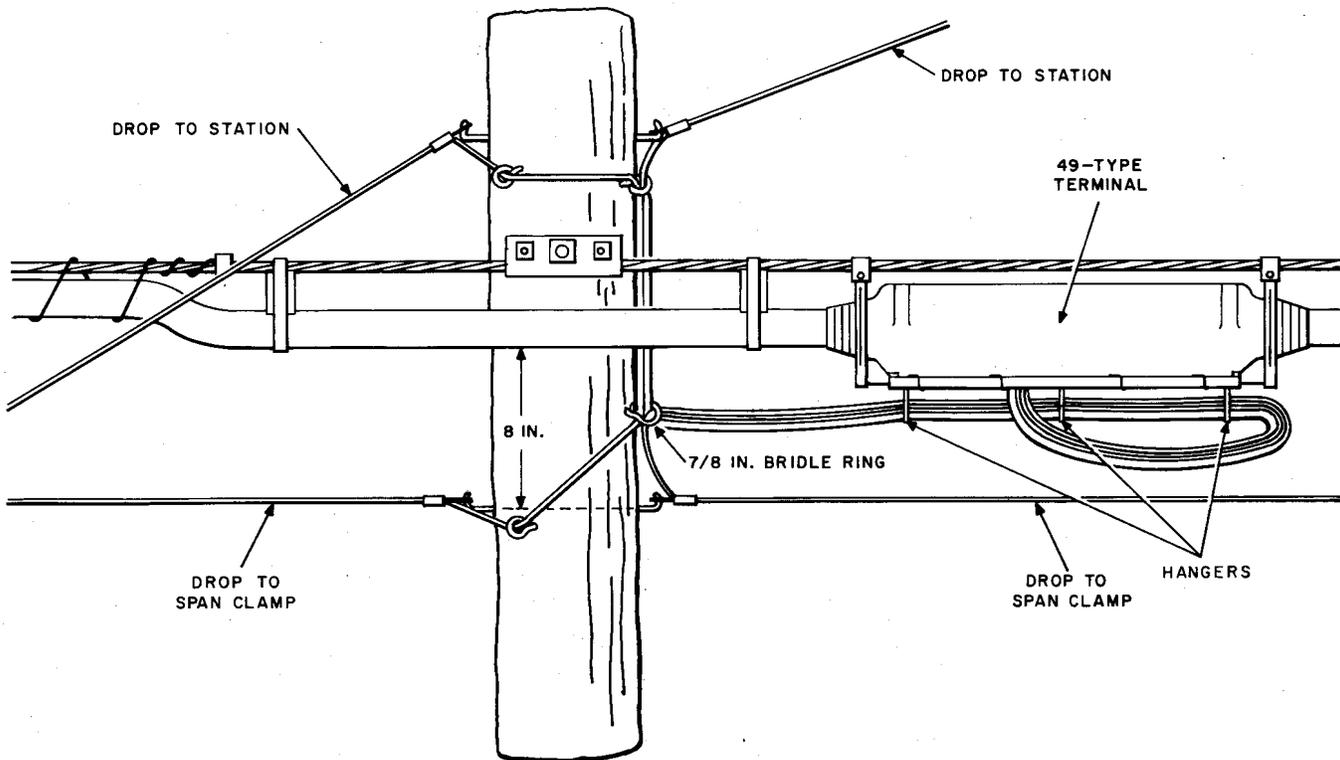

Fig. 1—Running Drop Wire To 49-Type Terminal At Pole
3.01 Run drop wires to the terminal from the adjacent pole, (Fig. 1), except where they distribute from a cable extension arm or from a span clamp. A drop wire distributing from a span clamp should be run directly from the span clamp to the terminal when the span clamp is adjacent to the terminal.
3.07 Refer to Fig. 1, 2, and 3 for typical arrangements of drop wires fed from 49-type terminals on aerial cable. **Limit the number of drop wires in ready access 49-type terminals to eight (8).**